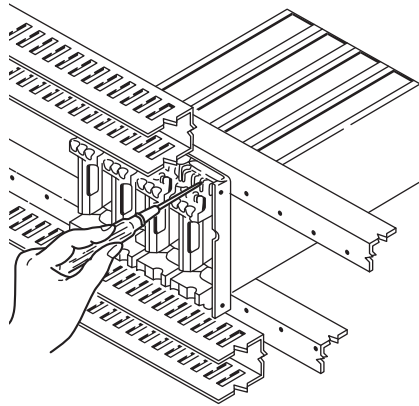

Figure 2.5 Rack-Case Mounting
- (1) Insert the case into the rack. Orient the case so that the multipin connector is on the left. Align the two mounting holes on the case with the screw holes on the rack, and fasten the case in place with two mounting screws (M5x0.8) [see Figure 2.5].